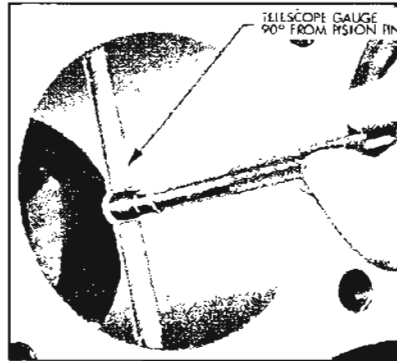

Figure 2-46—Using Telescope Gauge in Cylinder Bore
1. Expand a telescope gauge to fit the cylinder bore at right angles to the piston pin and between 1-1/2" and 2" from the top. See Figure 2-46.
1. To assemble piston and pin to connecting rod, assemble press as shown in Figure 2-46 with full radial face of support J-8754-1 "up".